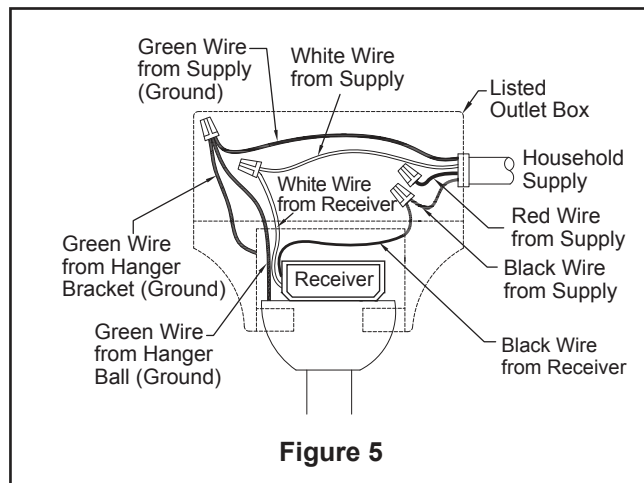

Figure 5
5. Route wires and safety cable through motor coupling cover, canopy screw cover and ceiling canopy. (Figure 5)
4. After connections have been made, the wires should be spread apart with the grounded conductor and the equipment-grounding conductor on one side of the outlet box and the ungrounded conductor on the other side of the outlet box, then turn leads upward and carefully push leads into the outlet box, with the white and green leads to one side of the box and the black leads to the other side. (Figure 5)
5. Assemble the light kit to the light plate assembly using the two key slots. Replace the screw removed in Step 3 and secure all three screws. (Figure 5)
- 5. Remote functions:** (Figure 5)